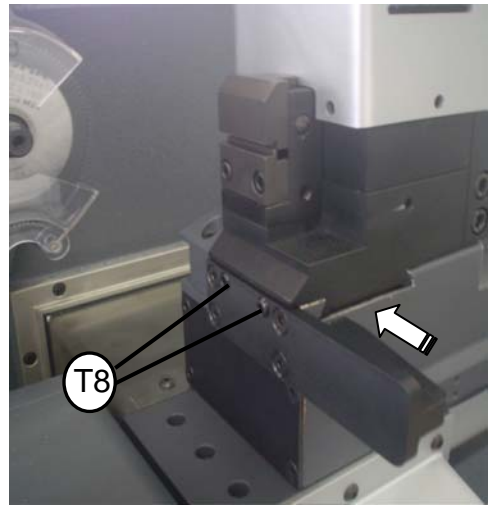

Fig.27
- 3) **Insert the automatic clamp:** Insert the automatic clamp in the dovetail as far as it will go and then tighten the setscrews (T8) to fix the clamp in place (Fig.27).